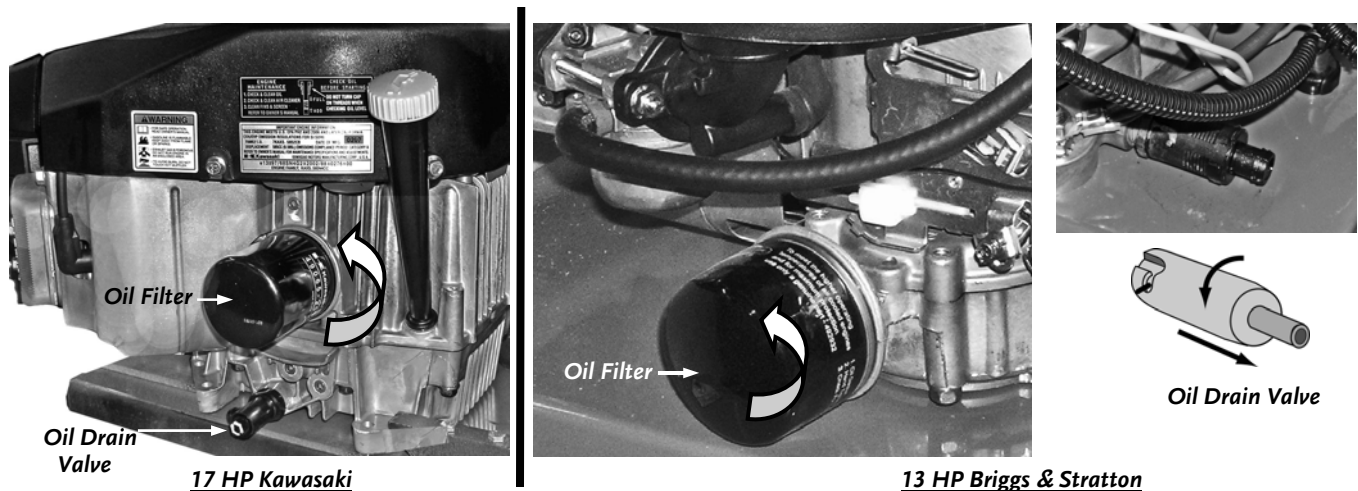

Figure 17
1. Attach the Plastic Hose provided to the Quick Release Oil Drain Valve located on the side of the Engines (**Figure 17**). Turn the Valve counterclockwise and pull out to drain the oil into a suitable oil receptacle.